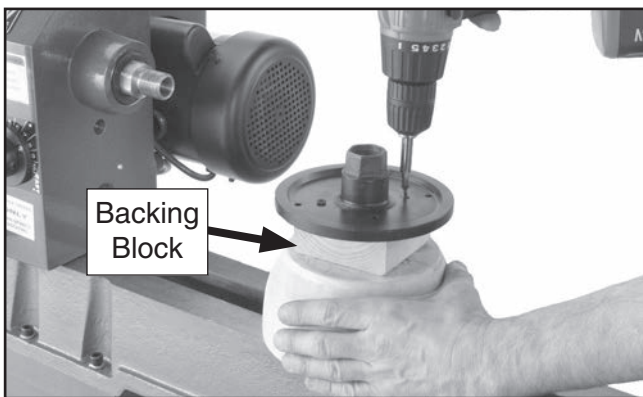

Figure 41. Example of mounting faceplate to a backing block.
1. Make the backing block (**Figure 41**) from a piece of scrap wood that is flat on both sides.